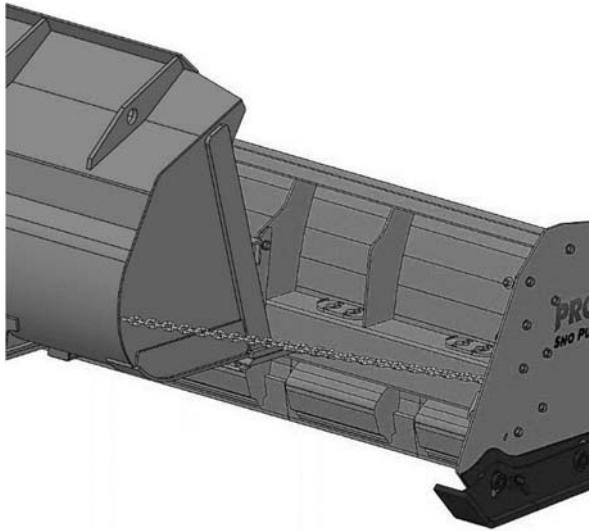

Figure 3
2. Attach one section of transport chain to the right side of the Sno Pusher using a 3/8" clevis. (Figure 3)